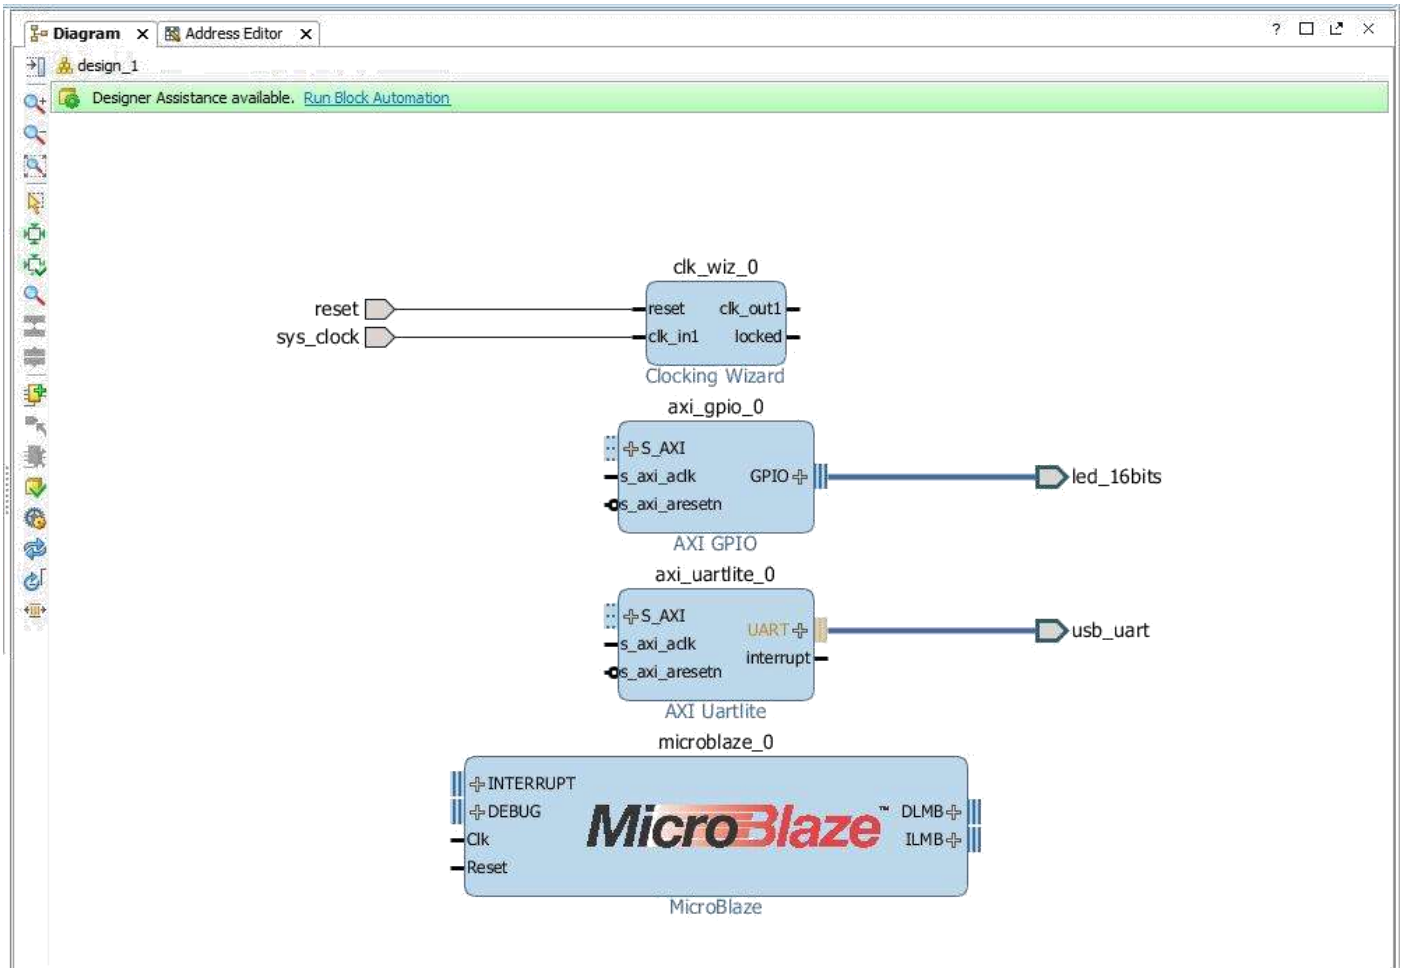

Figure 8 Block Design after connecting the UART
6. The block design should now look like in Figure 8.